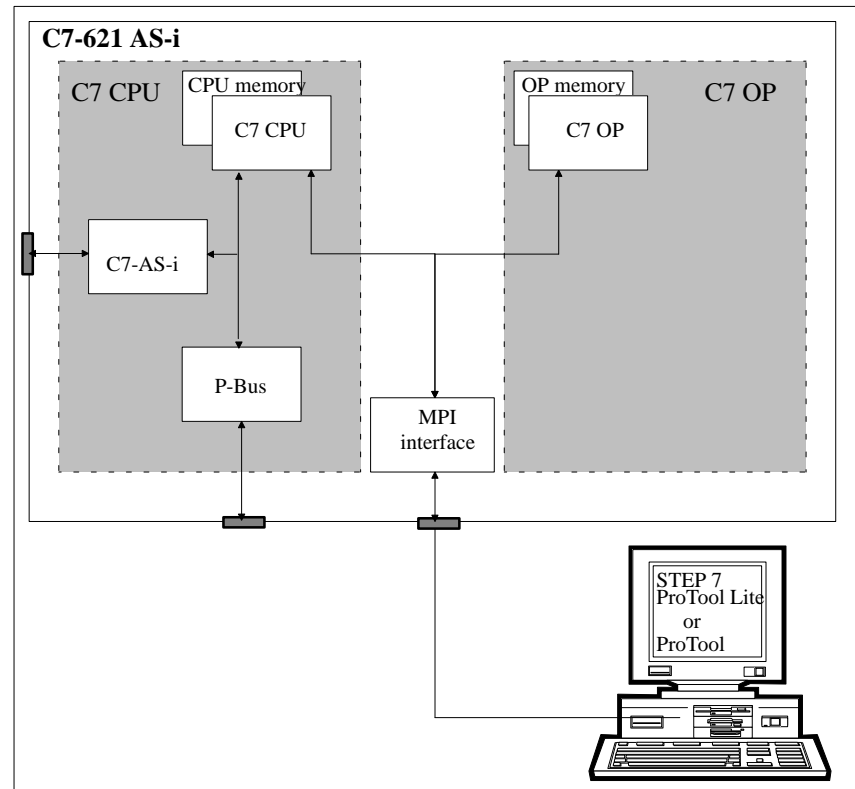

Figure 1-4 Components of the C7-621 AS-i
- An AS-interface (AS-i) for connecting sensors and actuators (version C7-621 AS-i, see Figure 1-4)
The individual components integrated in the SIMATIC C7 correspond to the components that can also be used in the modular configuration consisting of an S7-300 CPU, OP etc. The I/O expansion via the P bus interface (IM 621) allows the connection of a maximum of four SIMATIC S7-300 modules. The AS-interface allows the connection of sensors and actuators to the C7-621 AS-i (Figure 1-4).